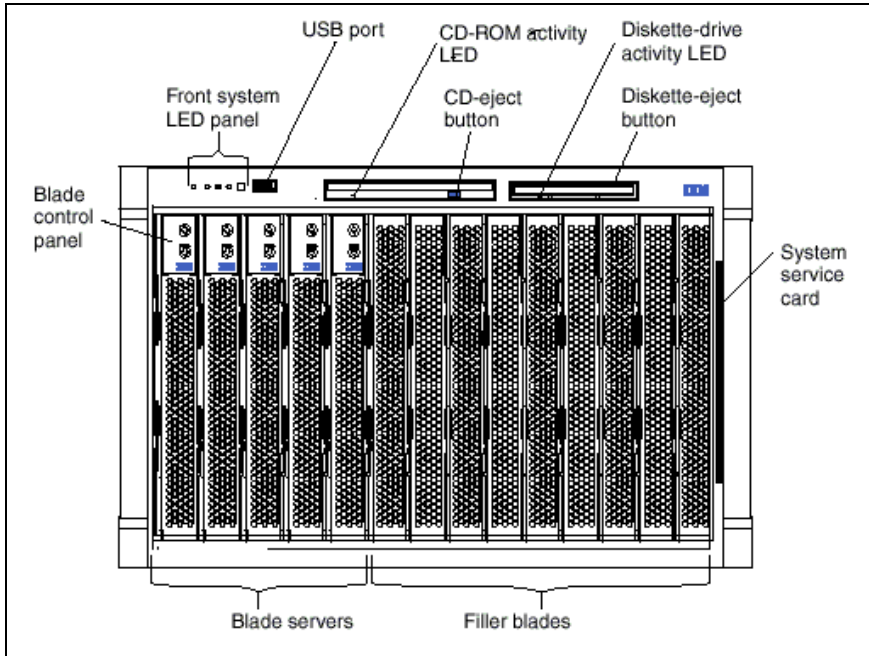

Figure 2. BladeCenter front view
Figure 2 shows a front view of the BladeCenter with four BladeCenter HS20s (blade servers). The control panel on each blade server contains buttons used to switch the keyboard, monitor and mouse to that blade. The control panel also features a cover, which can be flipped down to access the power button for that blade server.
2. On the blade server being installed, use the blade server's control panel buttons (see Figure 2) to obtain ownership of the keyboard/video/mouse and CD-ROM/diskette drive.